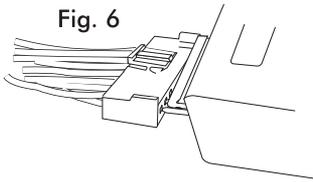

Fig. 6
- Attach the wiring harness to the receiver. See Fig 6.